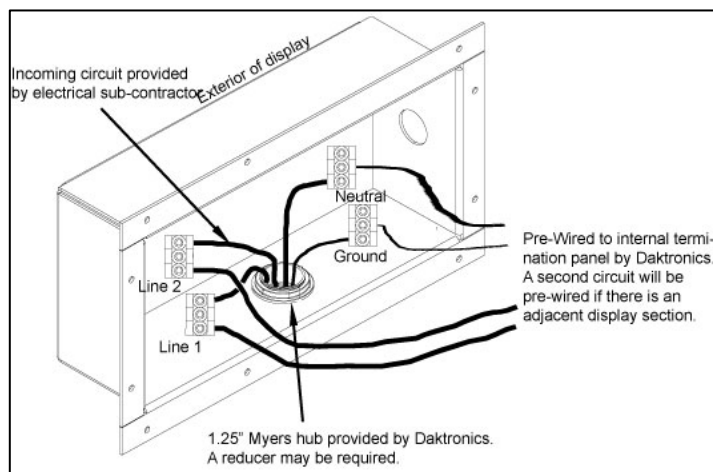

Figure 31: Meyers Hub Connection Diagram
6. Connect the ground wire to the appropriate tap (green wire). Refer to **Figure 31**.